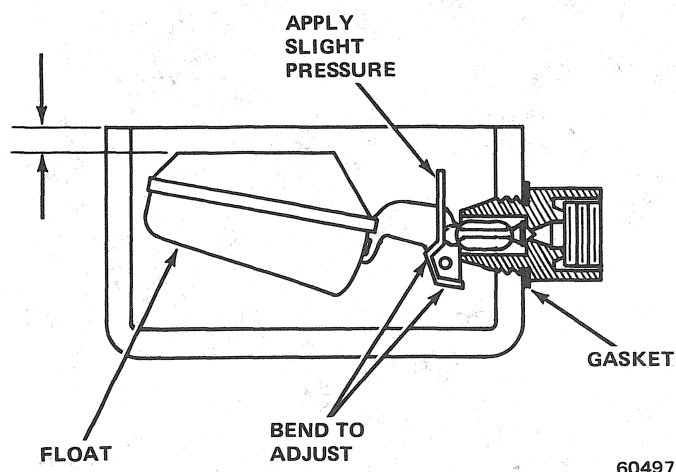

Fig. 1J-108 Float Level Adjustment
(1) Remove air horn.
(2) Raise float **gently** against needle and hold (fig. 1J-108).